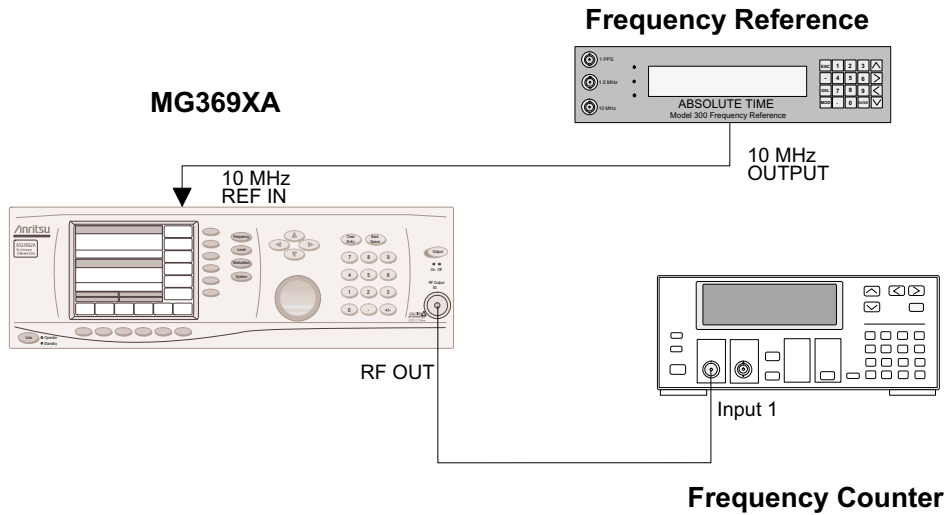

Figure 4-3. Equipment Setup for 10 MHz Reference Oscillator Calibration
- a.** Connect the equipment as shown in Figure 4-3.